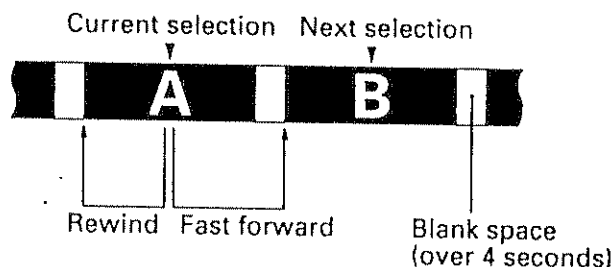

Fig. 24
*The following errors will cause the music search function to operate improperly, even though the unit is not malfunctioning. (Fig. 24)*